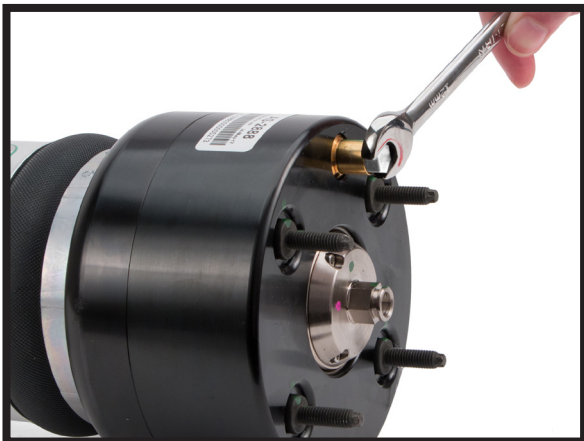

FIGURE 3
2. REMOVE THREADED PLUG AND DISCARD. (FIGURES 3, 4)